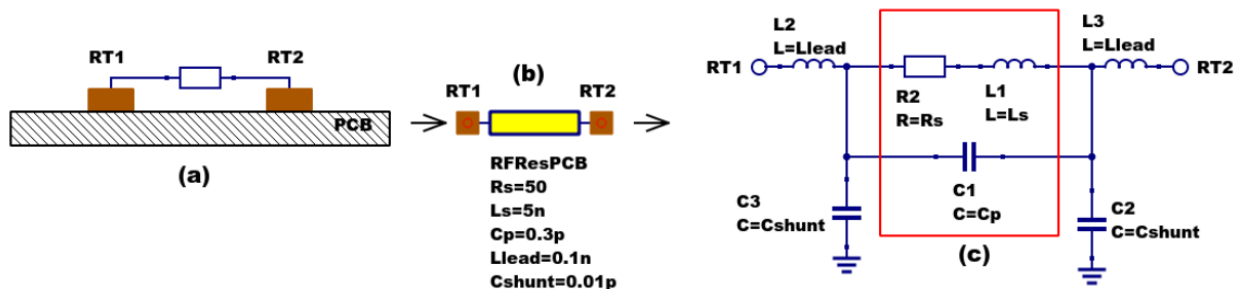

Figure 2 - PCB mounted resistor: (a) axial component mounting, (b) Qucs symbol and (c) equivalent circuit model.
The schematic symbol, I/V equation and parameters of the Qucs linear resistor model are shown in Figure 1. In contrast to this model Figure 2 illustrates the structure of a printed circuit board (PCB) mounted metal film (MF) axial RF resistor (a), its Qucs schematic symbol (b) and its equivalent circuit model (c). A thin film surface mounted (SMD) resistor can also be represented by the model shown in Figure 2 (c).
At signal frequencies where the largest dimension of an axial or SMD resistor is less than approximately 20 times the smallest signal wavelength a resistor can be modelled by a lumped passive circuit consisting of a resistor **Rs** in series with a small inductance **Ls** with the combination shunted by parasitic capacitor **Cp**. In Figure 2 **Rs** is the nominal value of resistor at its parameter extraction temperature **Tnom**, **Ls** represents the inductance associated with **Rs** where the value of **Ls** is largely determined by the trimming method employed during component manufacture to set the value of **Rs** to a specified tolerance. Similarly, capacitor **Cp** models a parasitic capacitance associated with **Rs** where the value of **Cp** is a function of the physical size of **Rs**. At RF frequencies it is important, for accurate operation, to add lead parasitic elements to the intrinsic equivalent circuit model shown within the red box draw in Figure 2. In Figure 2 **Llead** and **Cshunt** represent resistor series lead inductance and shunt capacitance to ground respectively.
A typical set of model parameters for a  $51 \Omega$  5 % MF axial resistor are (1) **Ls = 8nH**, **Cp = 1pF**, **Llead = 1nH** and **Cshunt = 0.1pF**. Illustrated in Figure 3 is a basic S parameter test bench circuit for measuring the S parameters of an RF resistor over a frequency range 1 MHz to 1.3 GHz. This example also demonstrates how the real and imaginary parts of a resistor model impedance can be extracted from S parameter simulation data. The graphs in Figure 3 clearly demonstrate that the impedance of the typical MF RF resistor described in previous text and modelled by the equivalent circuit shown in Figure 2 is a strong function of frequency at higher frequencies in the band 1 MHz to 1.3 GHz.
Figure 8 - Qucs device model parameter extraction system applied to a nominal  $47\ \Omega$  resistor represented by the subcircuit model illustrated in Figure 2 (c). Fixed model parameter values:  $R_s = R_m = 47.3\ \Omega$ ,  $C_{shunt} = 0.08\text{pF}$ ; Optimised values:  $L_s = L = 10.43\text{nH}$ ,  $L_{lead} = LL = 1.47\text{nH}$ ,  $C_p = C = 0.69\text{pF}$ . To reduce simulation time the ASCO cost variance was set to  $1e-3$ . The ASCO method was set to DE/best/1/exp.
Figure 11 - Qucs device model parameter extraction system applied to a nominal 1000  $\Omega$  resistor represented by the subcircuit model illustrated in Figure 2(c).
Figure 13 - Qucs device model parameter extraction system applied to a nominal  $100\ \Omega$  SMD resistor represented by the subcircuit model illustrated in Figure 2 (c).
Listed below is an example Verilog-A code model for the RF resistor model introduced in Figure 2 (c). Due to the limitations of the Verilog-A language subset provided by version 2.3.4 of the "Analogue Device Model Synthesizer" (ADMS)4 inductors **Ls** and **Llead** are modelled by gyrators and capacitors with values identical to **Ls** or **Llead**.